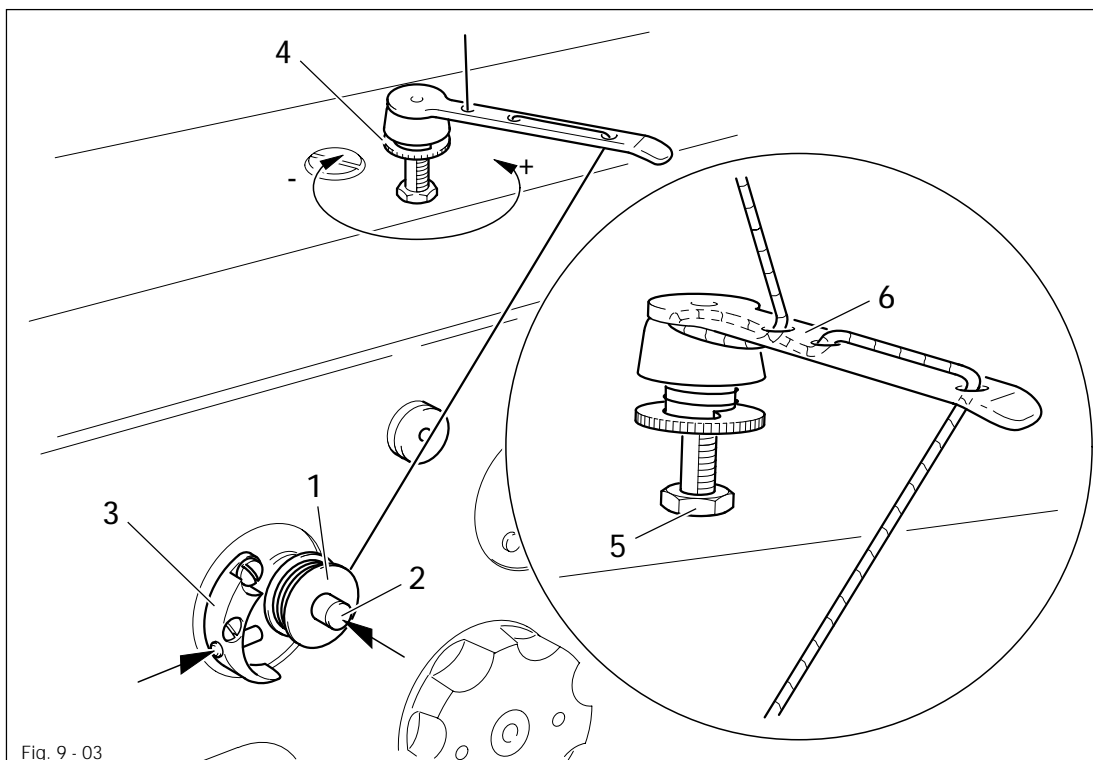

Fig. 9 - 03
- Thread up as shown in Fig. 9 - 03 and wind the thread a few times clockwise around bobbin 1.